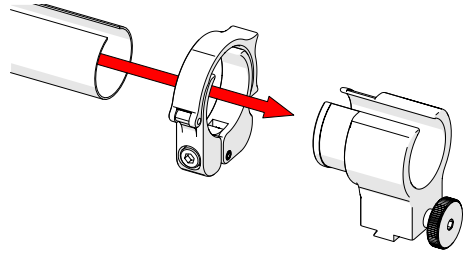

Fig. 107 - Slide tube around mount
2. Slide the clamp around the tube first and then slide the tube around the outside of the cable management dovetail mount (Fig. 107). Align the zipper opening and the cable management dovetail mount opening.